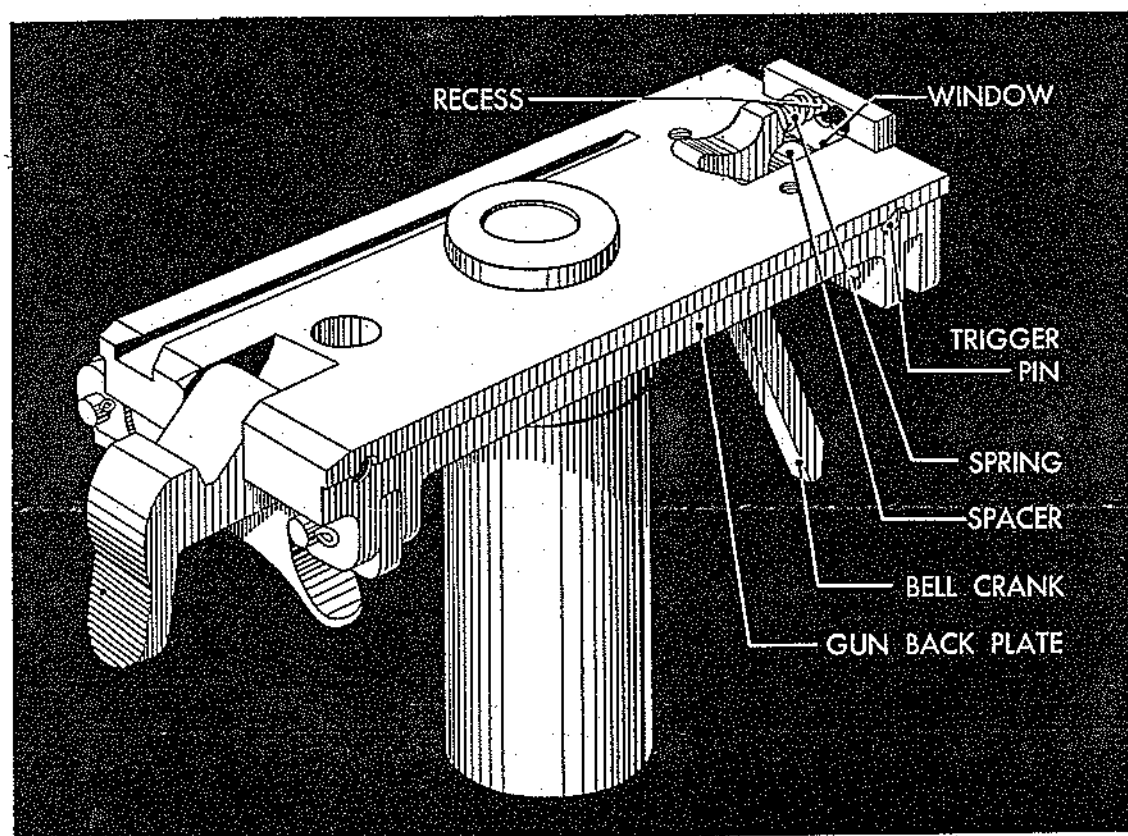

Figure 36.—Bell Crank Installation for Caliber .50 BAM Gun Conversion
- (a) Remove the gun back plate shown in Fig. 36.
- (c) Insert the bell crank in the window with its longer arm aft as shown in Fig. 36.